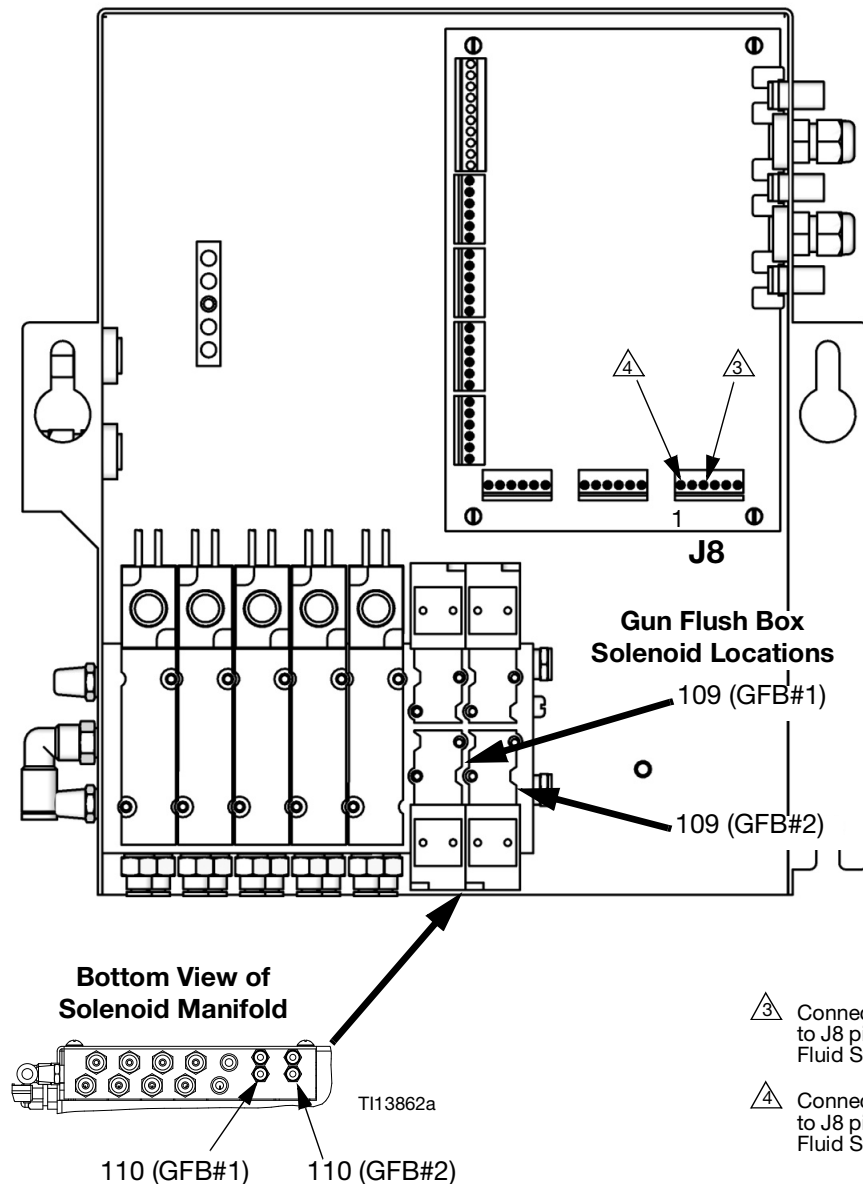
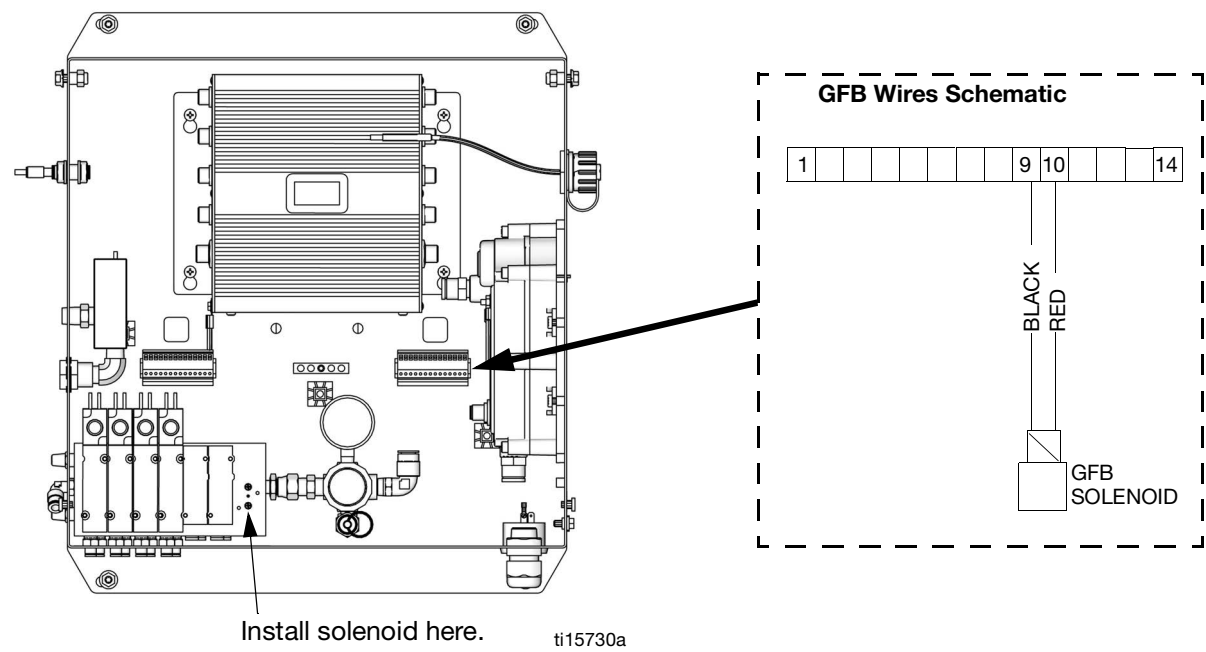
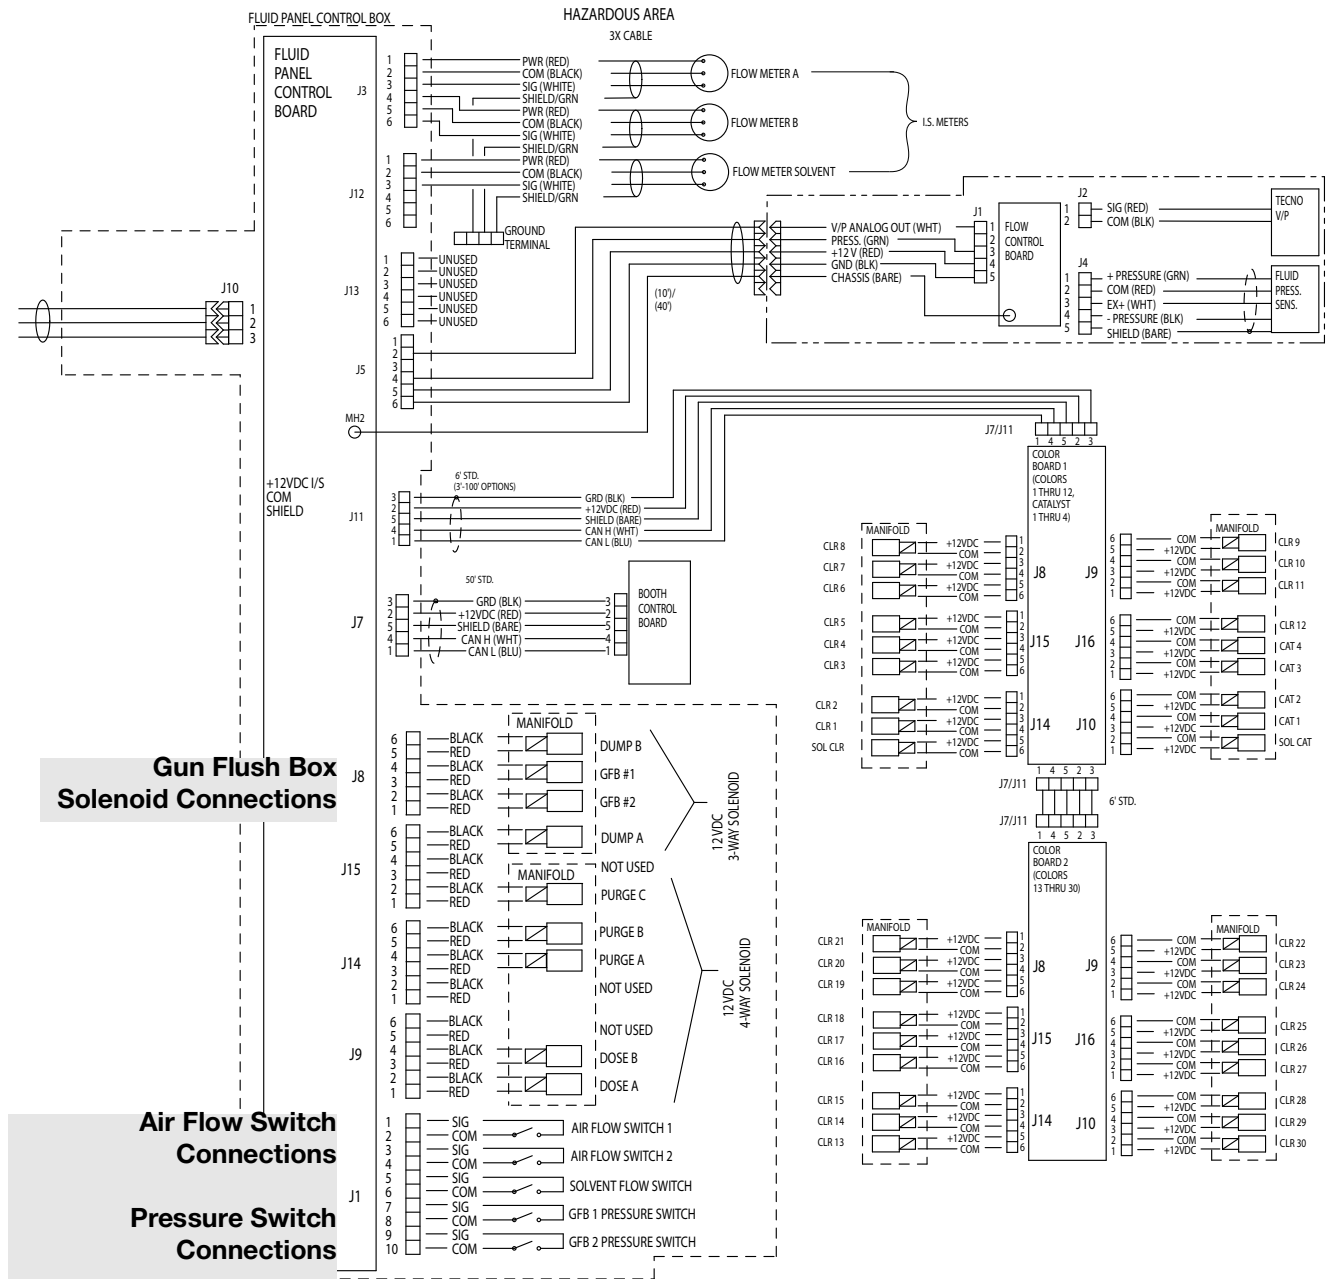
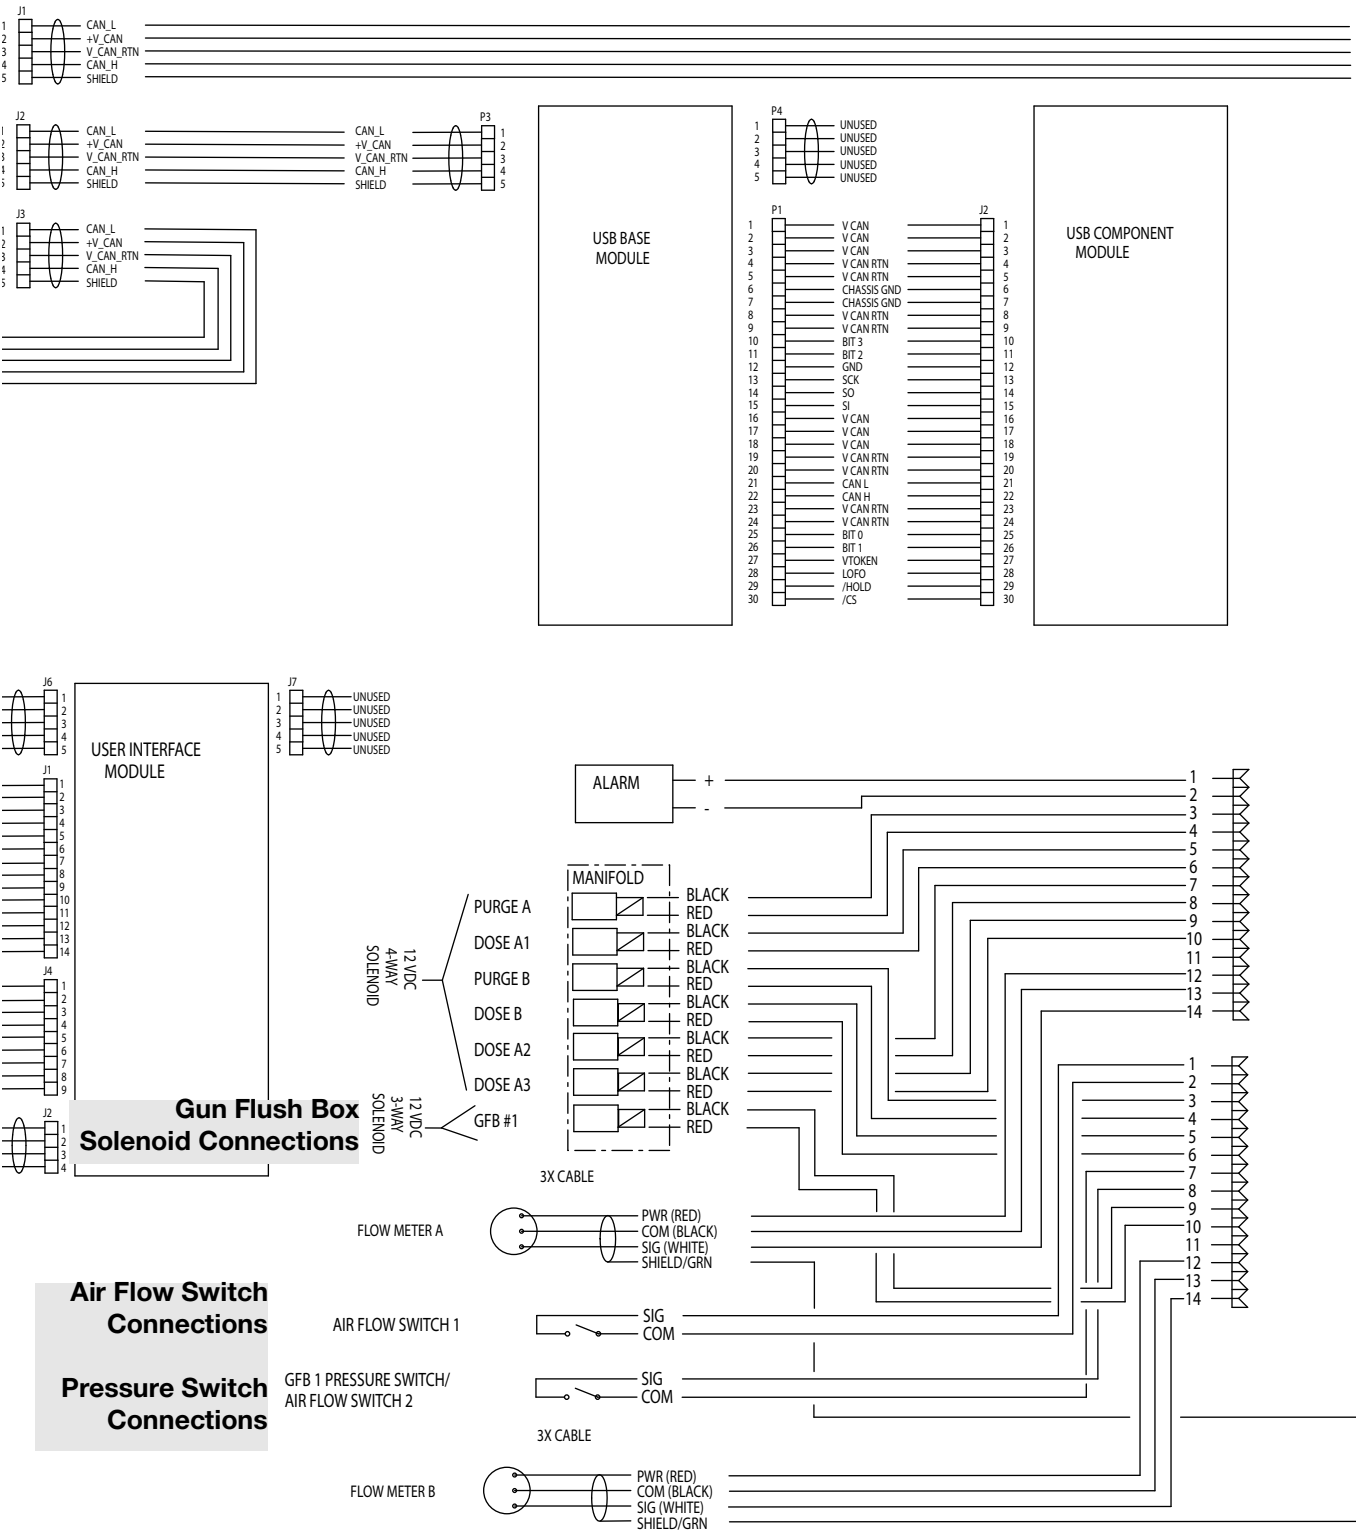

FIG. 6: Installing Gun Flush Box Solenoid Valve on a ProMix 2KS
FIG. 7: Installing the Gun Flush Box Solenoid Valve on a ProMix 2KE
FIG. 8: System Electrical Schematic (ProMix 2KS)
Fig. 9: System Electrical Schematic (ProMix 2KE)
NOTE: Each gun flush box includes one solenoid (109). Install the solenoid in the fluid station panel, as shown in FIG. 6. If you are using a second gun flush box, install its solenoid next to the first solenoid, as shown.
2. Install the solenoid valve (109) in the correct position as shown in FIG. 6 for the ProMix 2KS or FIG. 7 for the ProMix 2KE. Secure with the two screws supplied.
3. Connect the GFB#1 solenoid wires as shown in FIG. 6 for the ProMix 2KS or FIG. 7 for the ProMix 2KE. Also see the Electrical Schematic (FIG. 8 or FIG. 9).
4. Remove the plug from the solenoid manifold and install the tube fitting connector (110).